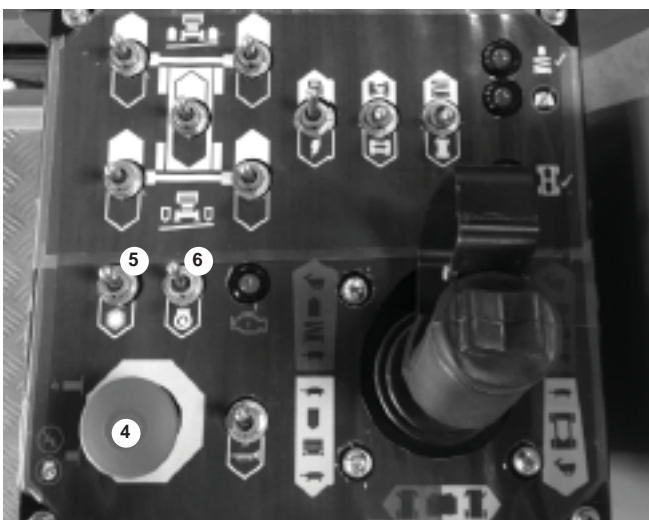

Figure 8.8
5. Pull the Emergency Stop switch (4) outward (on) (see figure 8.8).
6. Press the glow plug switch (5) down and hold, for no longer than 20 seconds, then release it just before starting the engine for an engine that is at ambient air temperature (a cold engine) (see figure 8.8).
7. Press and hold the start switch (6) down until the engine starts or for 20 seconds, whichever comes first. When the engine starts release the start switch (6) (see figure 8.8).